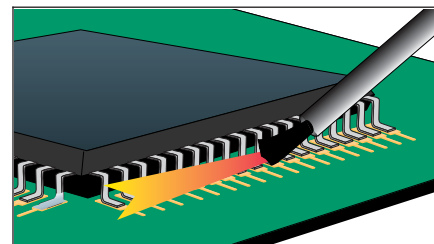

Figure 3 Apply Flux
4. Flux the row to be soldered. (See Figure 3.)